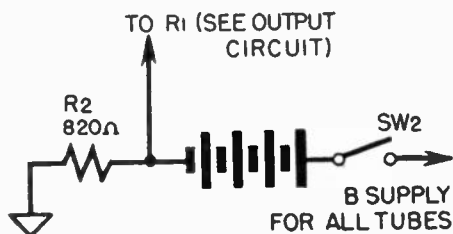

Fig. 8-5. B supply circuit.
b) B Supply Circuit. See Figure 8-5.
other end of C8 is connected to chassis. The lower end of R10 and the red (B plus) wire of the i.f. transformer are now connected to B plus (see B-supply diagram, Figure 8-5).